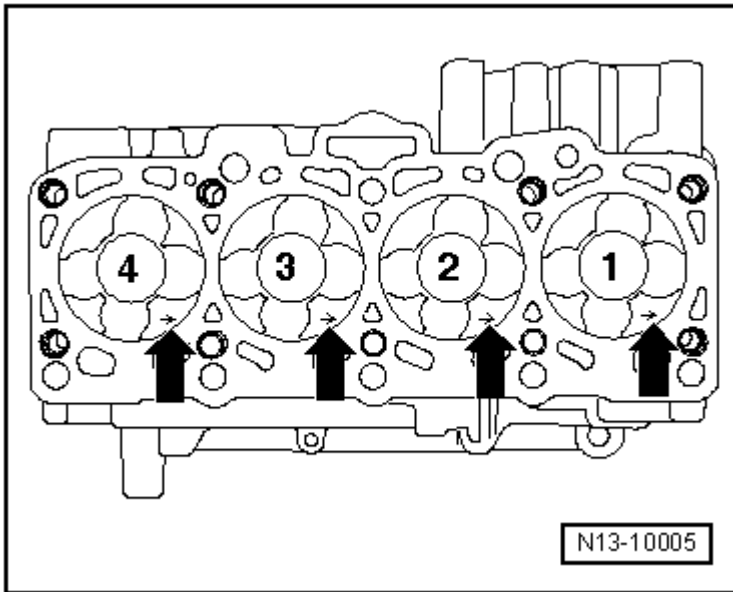

Fig. 16: Identifying Installed Position of the Piston and Piston/Cylinder Allocation
- Installed position and allocation, piston/cylinder. Refer to **Fig. 16**.